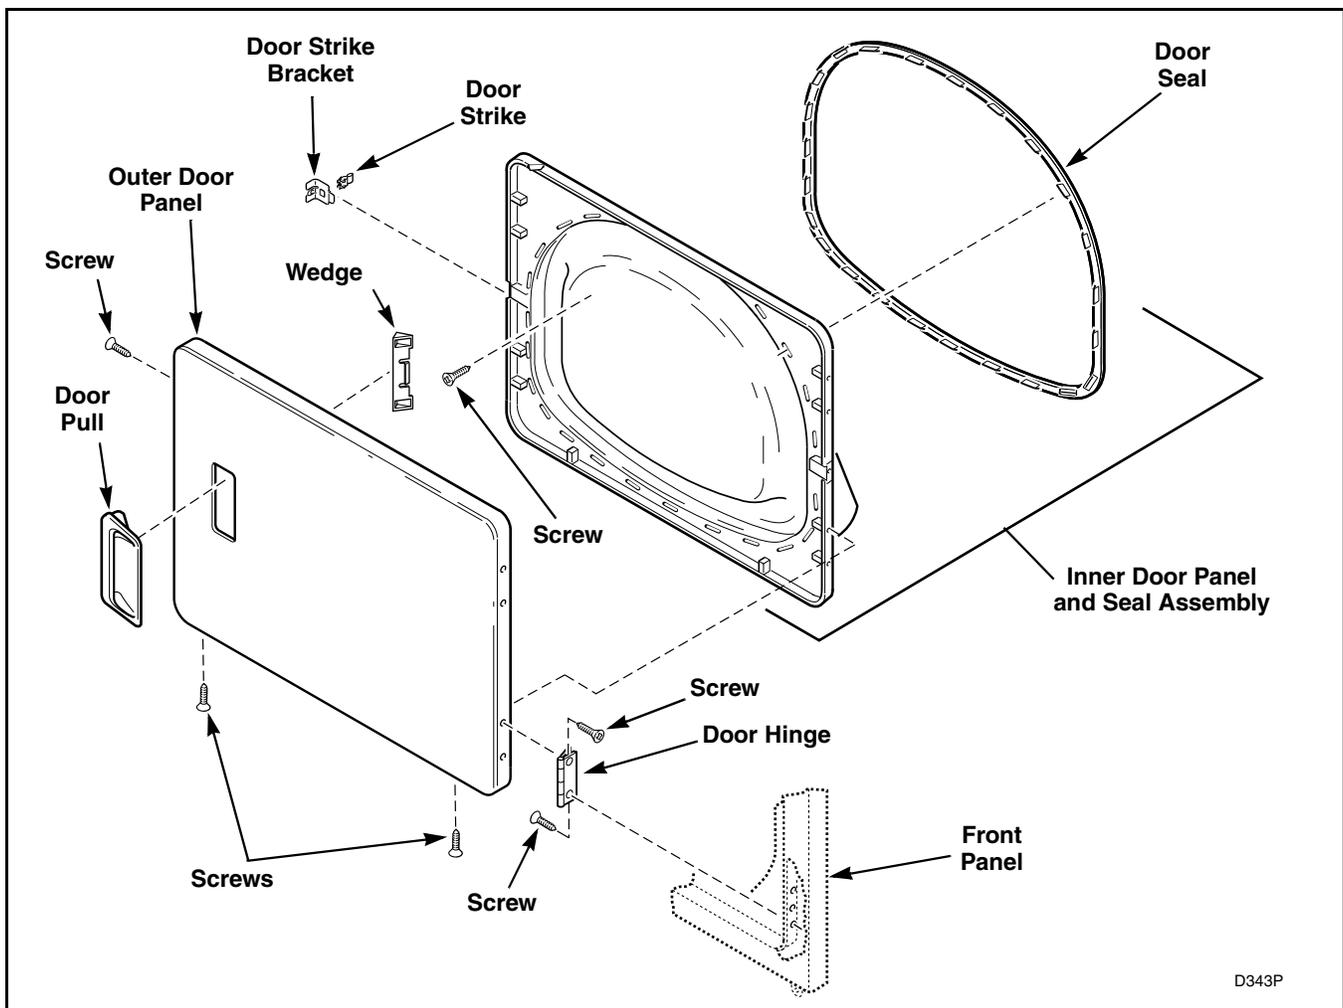

Figure 12
- Remove remaining screws around the door assembly and separate panels. Refer to *Figure 12*.
- Remove wedge (located behind door pull) by carefully prying up on center of wedge. Refer to *Figure 12*.
- Remove door pull. Refer to *Figure 12*.
- Remove screw holding door strike and bracket to loading door and remove strike and bracket. Refer to *Figure 12*.